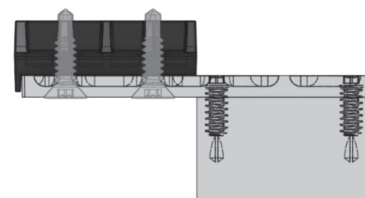

FIGURE 3
Place the included clamp onto the plate, aligning the extended edge against the top plate and install the (2) provided color matched self-drilling screws upward. Ensure the screws are snug (FIGURE 3).
Place the included clamp on both sides of the straight-line connector plate and secure them with the (2) self-drilling color matched screws for each side, ensuring the extended edges of the clamp are lined up and centered on the plate. (Similar to FIGURE 3)